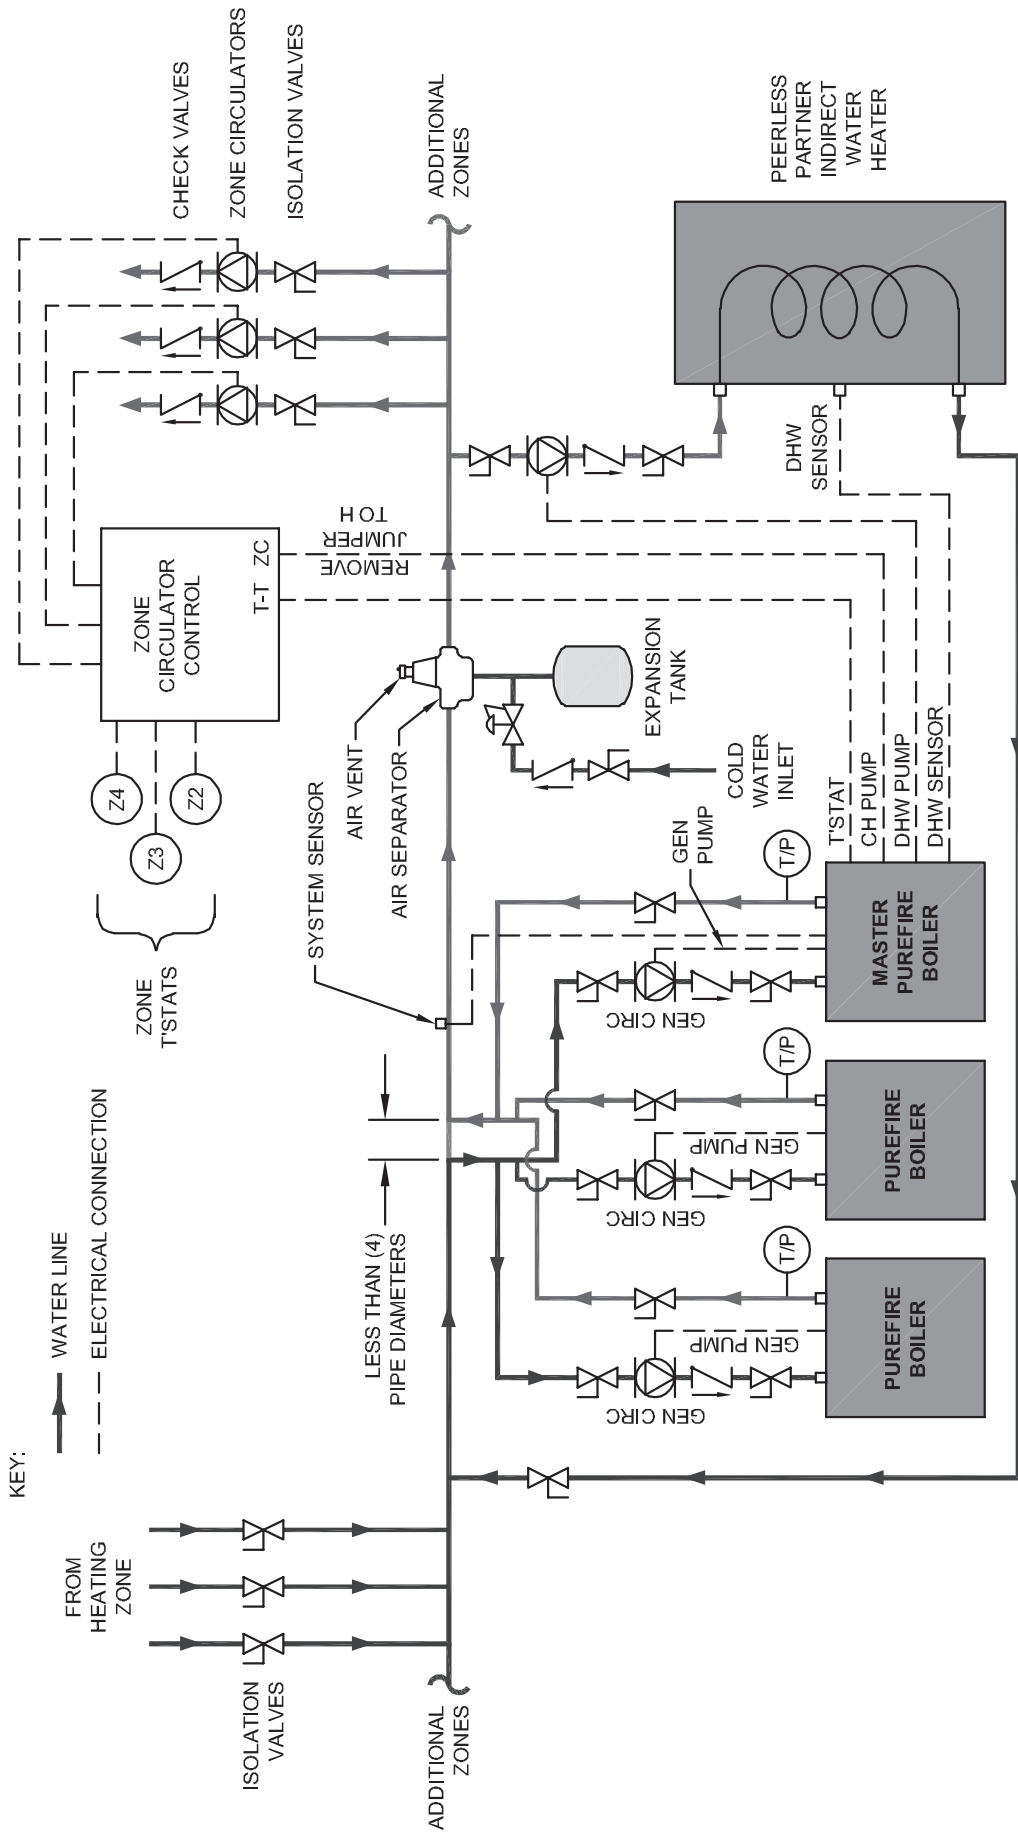

Figure 8.50: Multiple Boiler (Cascade) Piping / Electrical Connections for Systems with Zone Circulators
- Figure 8.50 shows a typical system which uses a circulator zone control panel to control the central heating zones.